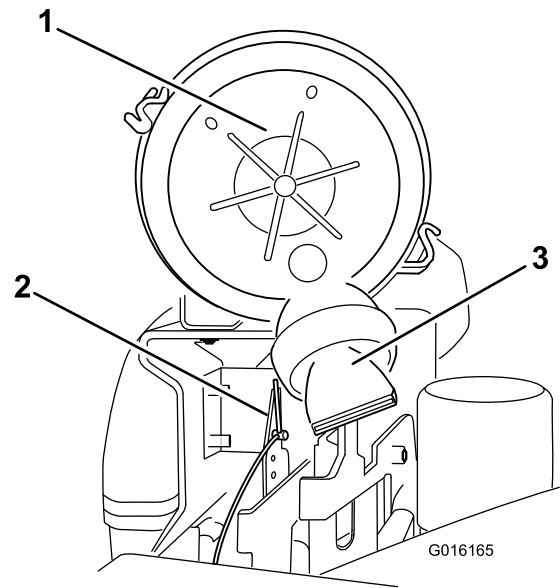

Figure 50
4. Position the air cleaner cover so that the breather valve does not interfere with the throttle mechanism (Figure 50).